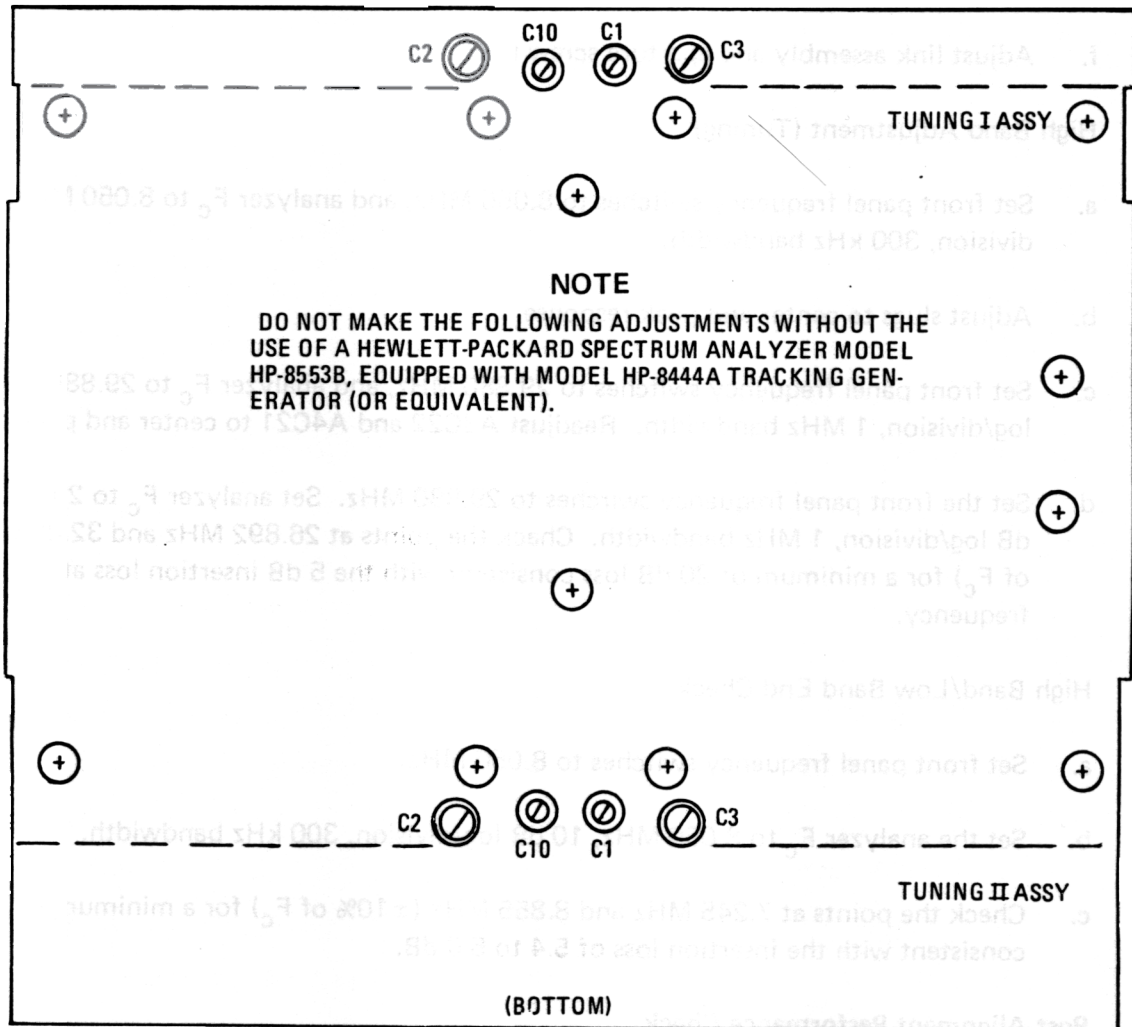

Figure 5. RF-596-02 Preselector Module Rear Panel Adjustments
- a. Refer to figure 5 and set the front panel frequency switches to 7.840 MHz. Set the analyzer to a F_c of 7.840 MHz, 2 dB log/division, and bandwidth of 300 kHz. Adjust A3C10 and A4C10 to center and peak the response.